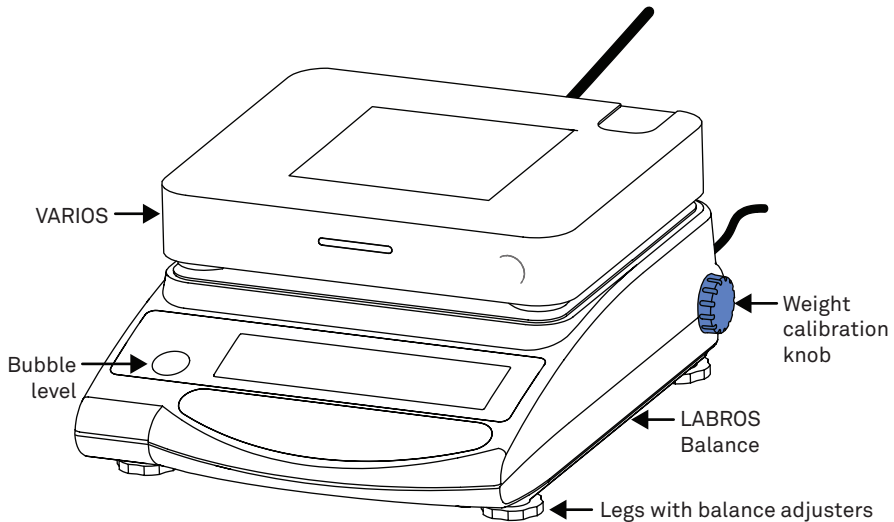

Figure 23 Balance leg adjusters and bubble level
2. Adjust the Balance by turning the Balance adjusters on the legs of the Balance until the level air bubble rests in the center of the level red circle (Figure 23).
3. Connect the Balance to the power supply and to the computer via the included USB cable and turn the Balance on (Figure 23).